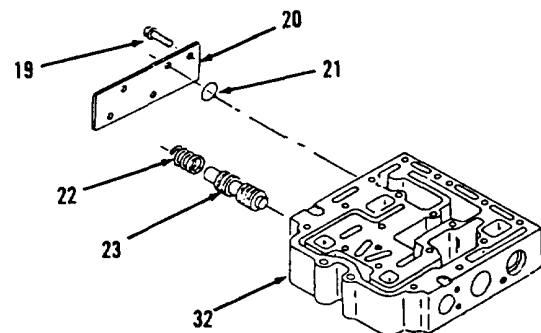

Figure 14-106.
3. Install spool (23) and spring (22, Figure 14-106).
4. Install new preformed packing (21) in cover (20).
5. Install cover (20) and five bolts (19) to body (32). Tighten five bolts (19) to 19 to 25 ft-lb. torque.